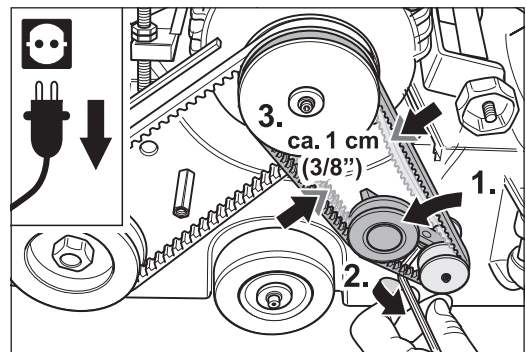

Fig. 104 Tension the suction V-belt by turning the belt tensioner counterclockwise (1. and 2.).
- 6 Turn the belt tensioner counterclockwise to tension the suction V-belt (Fig. 104, 1.). Keep the belt tensioner in position and tighten the clamping screw at the belt tensioner carefully at the same time (Fig. 104, 2.).
The slack on the V-belt should be approx. 1 cm (3/8") if compressed with normal effort (Fig. 104, 3.).